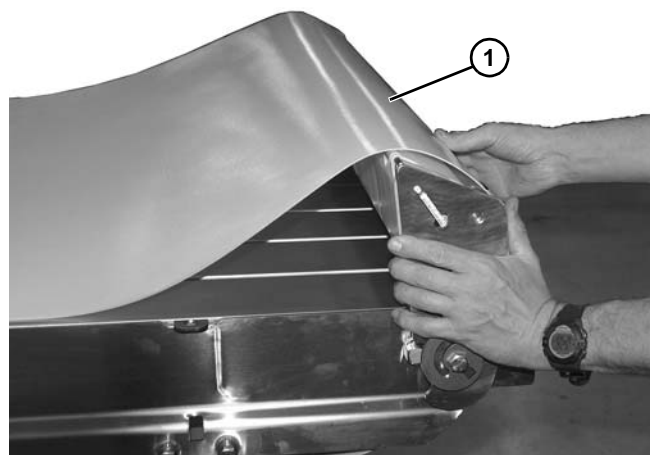

Figure 90
12. Tip up opposite end tail (**Figure 90, item 1**).